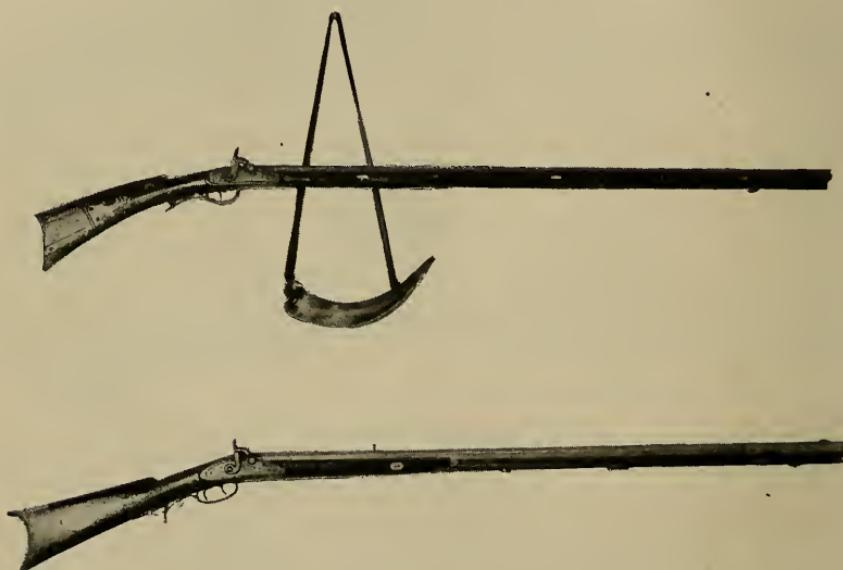

Fig. 2
*To prepare to shoot.* When it is desired to load, the finger lever B is thrown forward to the position shown in Fig. 2, and then returned to the position shown in Fig. 1. This motion throws out the shell or cartridge in the chamber, transfers a cartridge from the magazine to the chamber, cocks the hammer, and leaves the gun ready to fire when the trigger is pulled. The operation of loading is easily executed while the gun is at the hip, or at the shoulder, without taking the eye off the